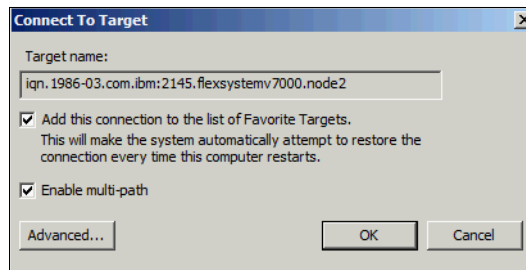

Figure 12-22 Connect to a target
- Highlight the inactive port and click **Connect**. The Connect to Target window opens (Figure 12-22).